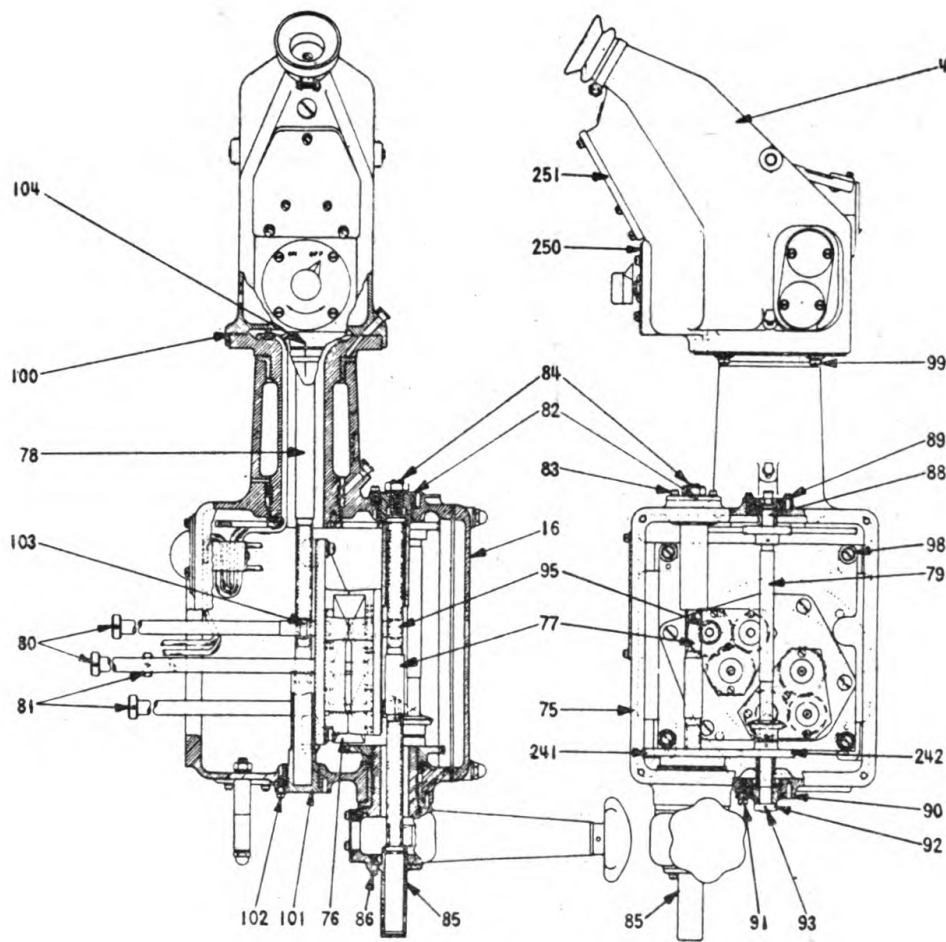

FIGURE 5.
(1) Loosen set screws at end of extension shafts 80 and 81, figure 5.
(3) Remove safety wire 26, and holding corrector drive housing in position, remove nuts 25.
(4) Holding assembly in normal position, pull it straight out from main case, being careful not to damage or distort the extension shafts.
c. Referring to figure 5, remove cover plate 16.
the inner rack as measured from the under bearing surface of the open sight assembly 100, figure 5, to the extreme lower end of the inner rack, is  $9\frac{7}{32}''$ .
16. Referring to figure 5, turn the open sight assembly in azimuth until the guide marks 104 are aligned. Do not disturb this setting until azimuth synchronization has been completed. Position corrector handle and knob so that it projects at right angles ( $90^\circ$ ) to the azimuth heading of the corrector drive housing.
*c.* This offset procedure compensates for the thickness of the corrector handle at the point of contact with the stop stud 22, figure 2, resulting in equal displacement of the open sight assembly on either side of the guide marks 104, figure 5. This completes the azimuth adjustment of the corrector drive assembly.